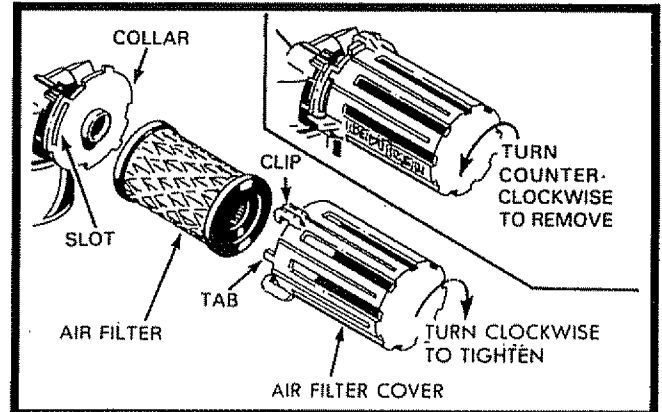

FIG. 7
- Remove the air filter cover by turning counterclockwise to the stop and pull away from collar (See Fig. 7).
- Remove filter from inside of cover (See Fig. 7).
- Push in on cover and turn clockwise to tighten (See Fig. 7).